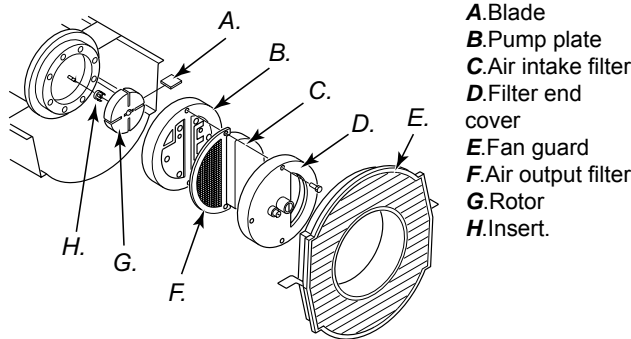

Figure 25 – Rotor location, 35.000 btu/Hr and 70.000 Btu/Hr.
9. Check gap on rotor. Adjust to .076/.101 mm (.003"/.004") if needed (see Figure 25).